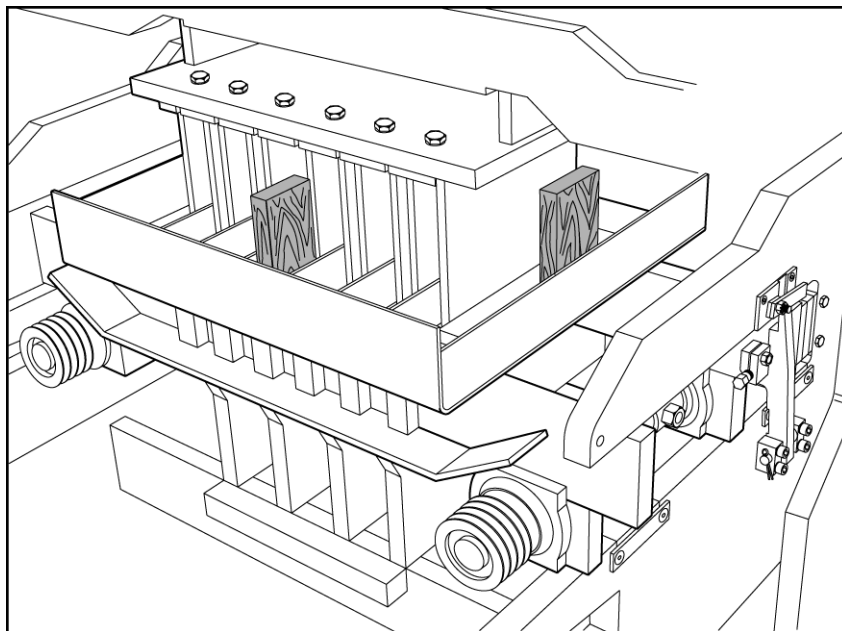

Figure 5.2 WOODEN BLOCKINGS IN MOLD
- 5.3.8 Put 2 X 4's wooden blockings in mold as shown in figure 5.2. Use two pieces of 2" x 4" x 8" wood blocking, and one piece of 2" x 4" x 7-1/2" to assure a space between stripper head plate and mold top plate. Use the 8" blockings in the rear corners and the 7-1/2" blocking in the front center to clear bolt holes in the stripper head top plate.